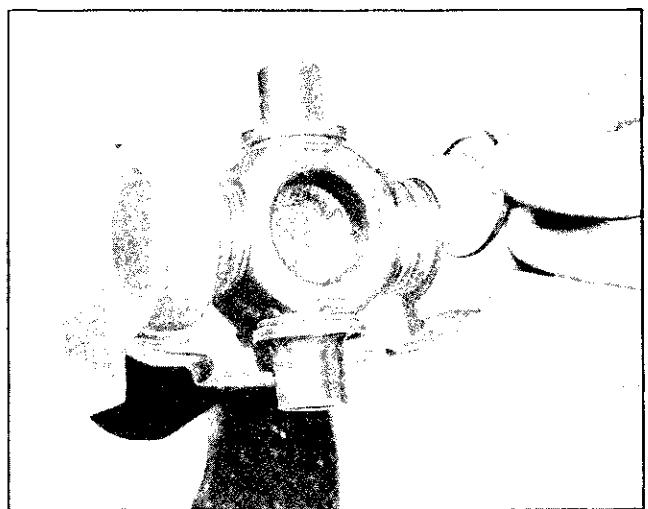

Fig. 4c-7 Installing Snap Ring Retainer
6. Install snap ring retainer in each journal with gaps toward rear fixed yoke (Fig. 4C-7).